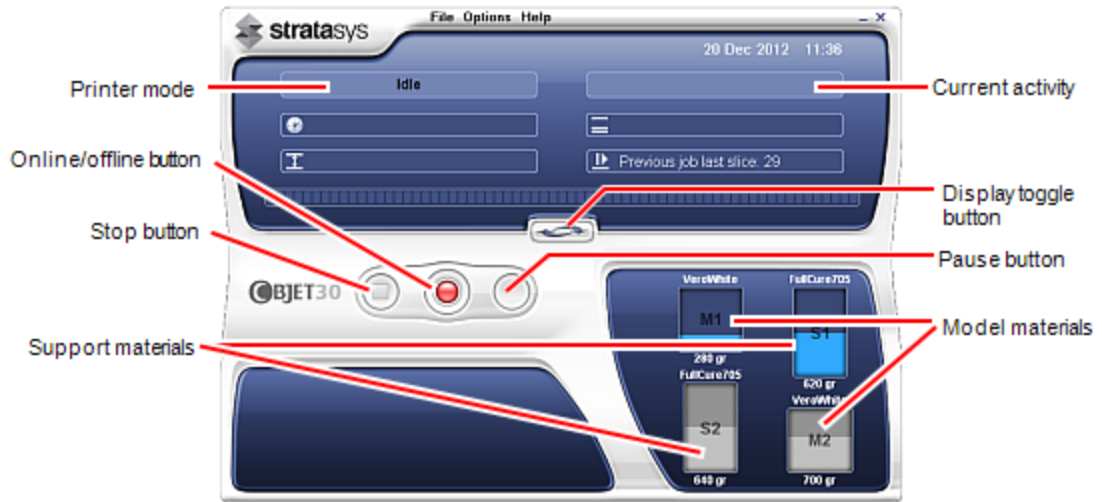

Figure 6-3 Objet30 interface
Objet30 printers use two cartridges of Model material and two cartridges of Support material, each weighing one kilogram when full. A graphical representation of the cartridges loaded and their current weight appears in the printer interface (see Figure 6-3 on the previous page).
5. Check the printer interface to make sure that the new cartridge is detected and that its weight is displayed (see Figure 6-3 on page 6-4).
2. Make sure that there is sufficient Model and Support material loaded, as indicated on the printer interface (see Figure 6-3 on page 6-4). You may want to replace the cartridges of Model and Support material currently loaded in the printer to avoid the need for replacing them during printing.
1. If the printer is in offline mode, switch it to online mode by clicking the red button at the bottom of the printer interface (see Figure 6-3 on page 6-4).
The button changes from red to green (see Figure 6-3 on page 6-4).